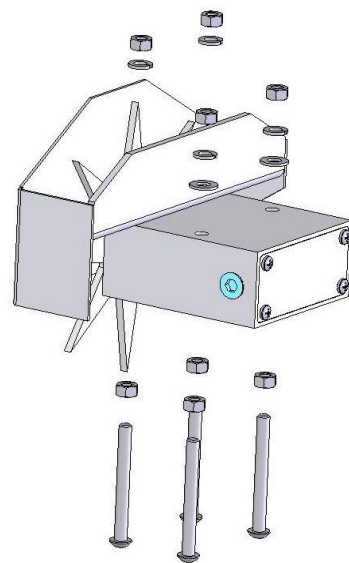

Figure 10
3. Install the eight (four per side) 5/16" x 3" Allen head cap screws. Make sure the Allen heads are in the bale chamber. Secure using eight 5/16" hex nuts. Figure 10
6. Secure the star wheels and twine diverters with four 5/16" hex nuts, lock washers, and two flat washers. Figure 10